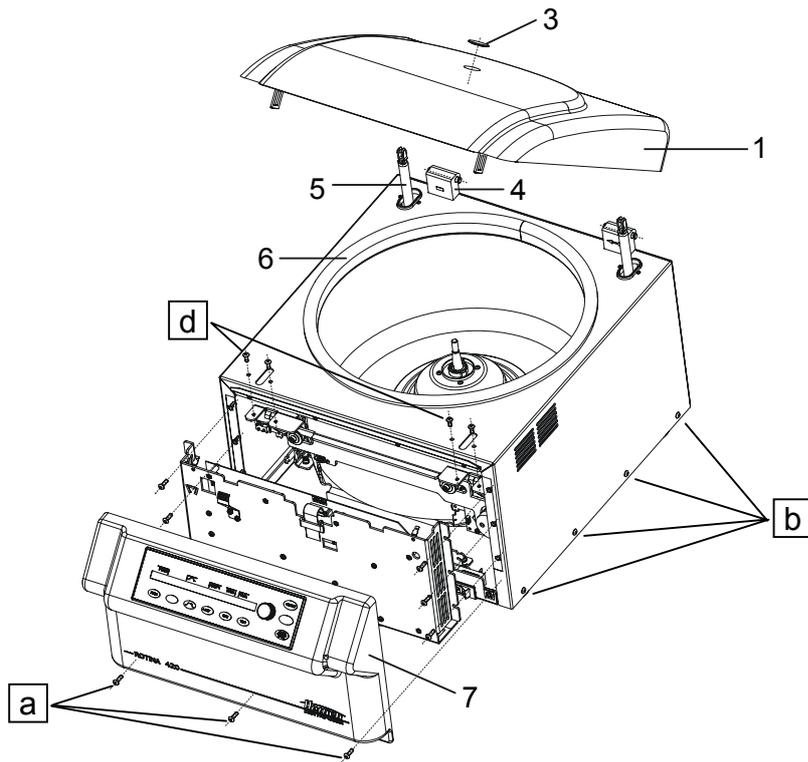

Fig. 2
- Undo the screws (pg. 77, Fig. 2, a ; pg. 78, Fig. 4, a) on the lower part of the front panel.
- Unscrew the fastening screws of the upper part of the centrifuge housing. 4 screws (pg. 77, Fig. 2, b ; pg. 78, Fig. 4, b) each on the left and right side of the upper part of the housing, 6 screws on its rear. In centrifuges with cooling, unscrew the two screws (pg. 78, Fig. 4, c) on the front of the upper part of the centrifuge housing.
- Unscrew the two screws (pg. 77, Fig. 2, d ; pg. 78, Fig. 4, d) each on the left and right lid lock on the upper part of the centrifuge housing and remove the lid lock.